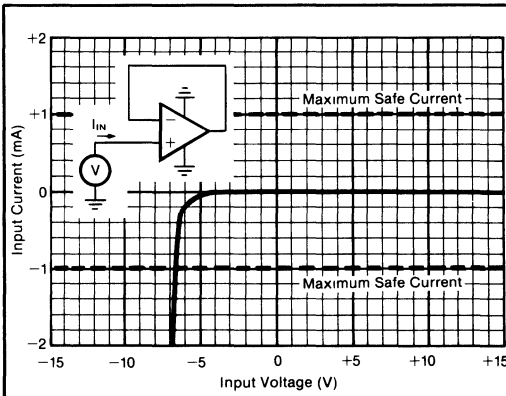

FIGURE 2. Input Current vs Input Voltage with $\pm V_{CC}$ Pins Grounded.
- (1) Packages must be derated based on $\theta_{JC} = 150^\circ\text{C/W}$ or $\theta_{JA} = 300^\circ\text{C/W}$
- (2) For supply voltages less than $\pm 18\text{VDC}$ the absolute maximum input voltage is equal to $+18\text{V} > V_{IN} > -V_{CC} - 6\text{V}$. See Figure 2
- (3) Short circuit may be to power supply common only. Rating applies to $+25^\circ\text{C}$ ambient. Observe dissipation limit and T_J